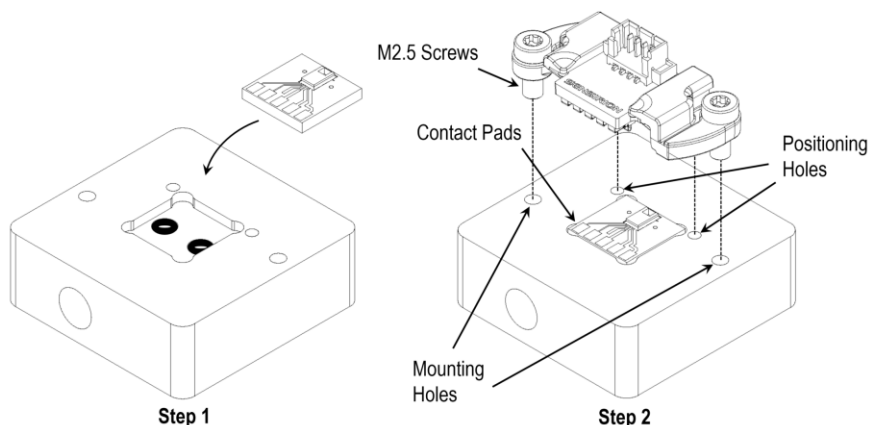

Figure 1: Mounting instructions
Please perform the following two steps to mount the assembly (see Figure 1):
- Place LPG10 flow sensor into recess and check that it is properly aligned. The orientation is correct if the contact pads of the flow sensors are located opposite to the positioning pin holes, with the contacts facing up, see Figure 1.